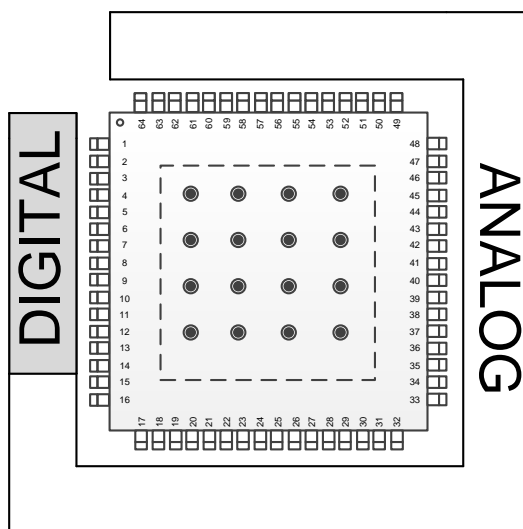

Figure 121. AMC7836 Example Board Layout — Component Placement
- The digital and analog sections should have proper placement with respect to the digital pins and analog pins of the AMC7836 device (see Figure 121). The separation of analog and digital blocks allows for better design and practice as it ensures less coupling into neighboring blocks and minimizes the interaction between analog and digital return currents.